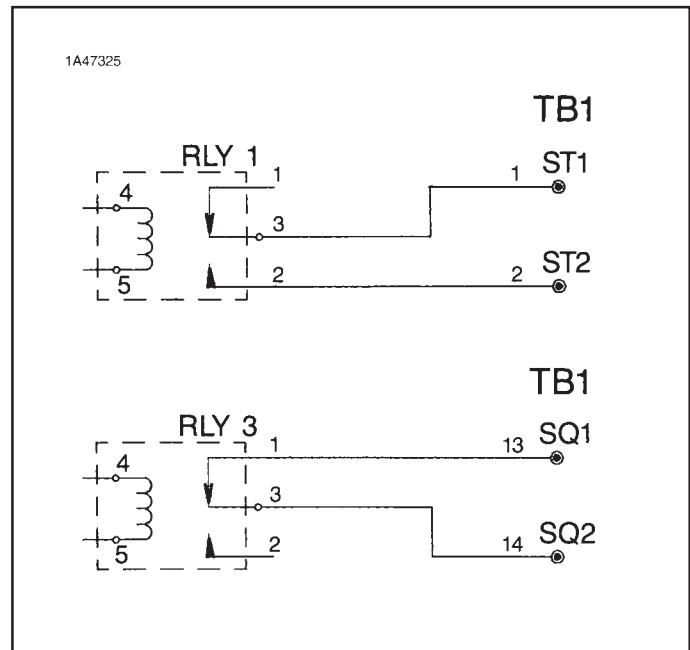

Fig. 6 Control Relay Terminals
circuit. These contacts are available at terminals SQ1 and SQ2 of Terminal Board 1 (TB1). See Figure 6.
RLY1 (see Figure 6) becomes energized about 50 milliseconds after power is delivered to the printed circuit board and proper operational status of the controller is established. RLY1 and its associated Light Emitting Diode (LED1) remain energized as long as the built-in +15 VDC voltage source remains above a prescribed level and three-phase power to the controller is present. The normally-open (NO) contacts of RLY1 should be used in series with the control circuit. Thus loss of control power will result in shutdown of the motor.
4. Close and latch all enclosure doors except that necessary to monitor voltage at F1 to F2, have access to potentiometer P1 on CB (See Figure 6) and read field current on the panel ammeter provided.
6. With power available on the Ampgard bus system, close the controller isolating switch and close the line contactor (M).